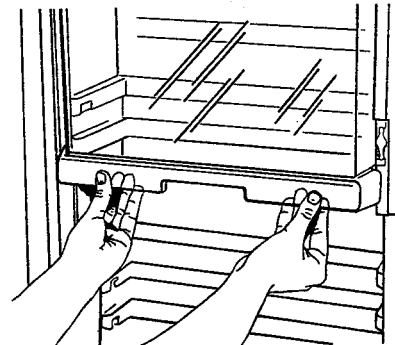

Figure 35
- a. Open chilled beverage compartment by sliding door upward. Door remains in position until moved again. Door locks in place at highest position. See Figure 35.